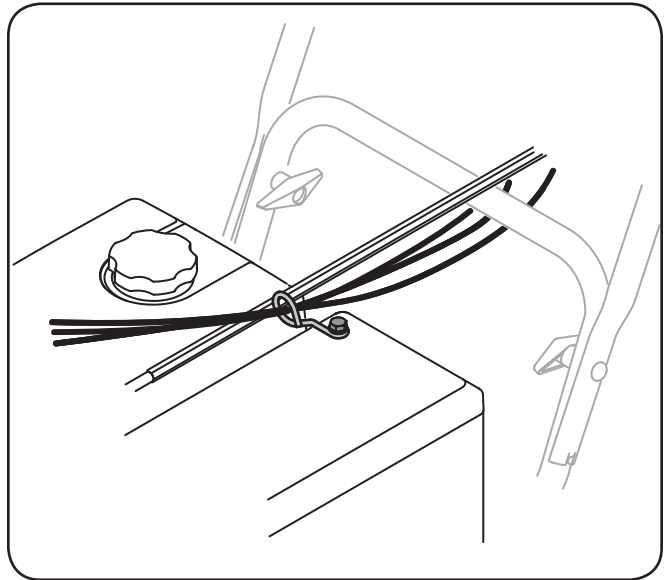

**Figure 3-8**
6. Push the chute control rod toward the control panel until the hole in the rod lines up with the middle hole in the chute control input and insert the cotter pin. See Figure 3-8.